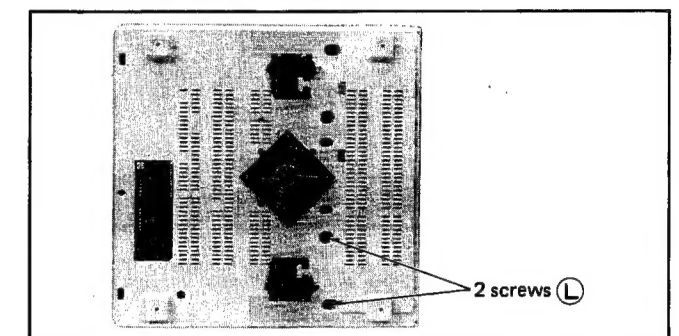

Fig. 12
- 1) Remove the two retaining 2 screws (L) from the tube shown in fig. 12.